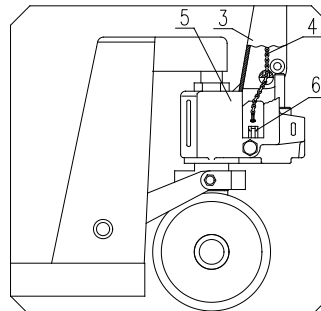
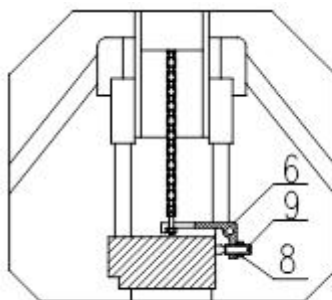

Fig. 2
Fig. 3
- 3.5 See Fig 2: Insert Chain (4) through center hole of Pin (1). You may find this easier by allowing the handle to lie horizontal.
- 3.6 See Fig 2 and Fig 3: Take screw/nut end of Chain (4) and hitch it under the groove in Lever (6).
4.2 The Screw (9) in Fig 3 is used to adjust the pump mechanism. When the truck body drops immediately after it is lifted, you should turn the Screw (9) counter-clockwise. And then try the truck again until truck body lifts normally.